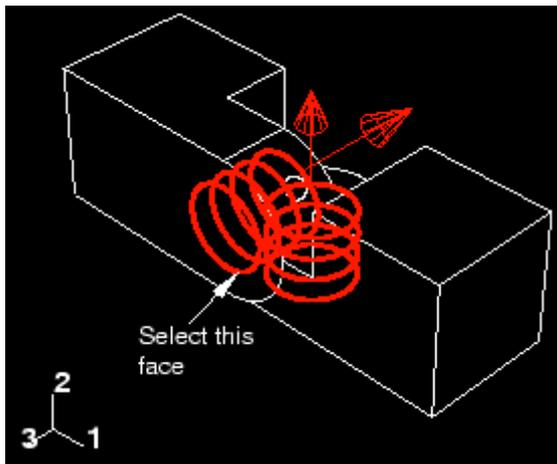

Figure C-28 Select a cylindrical face on the fixed instance.
8. Select the flange hole on the hinge piece with the lubrication hole, as shown in Figure C-28.